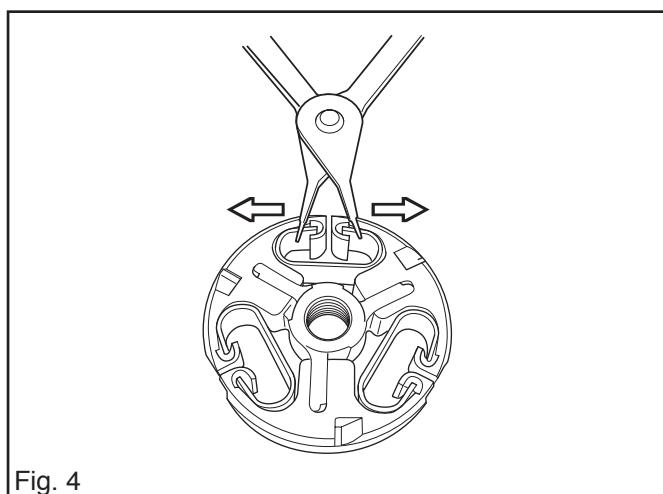

Fig. 4
1. Fit the clutch shoes on the hub and fit the springs with circlip pliers. See fig. 4.